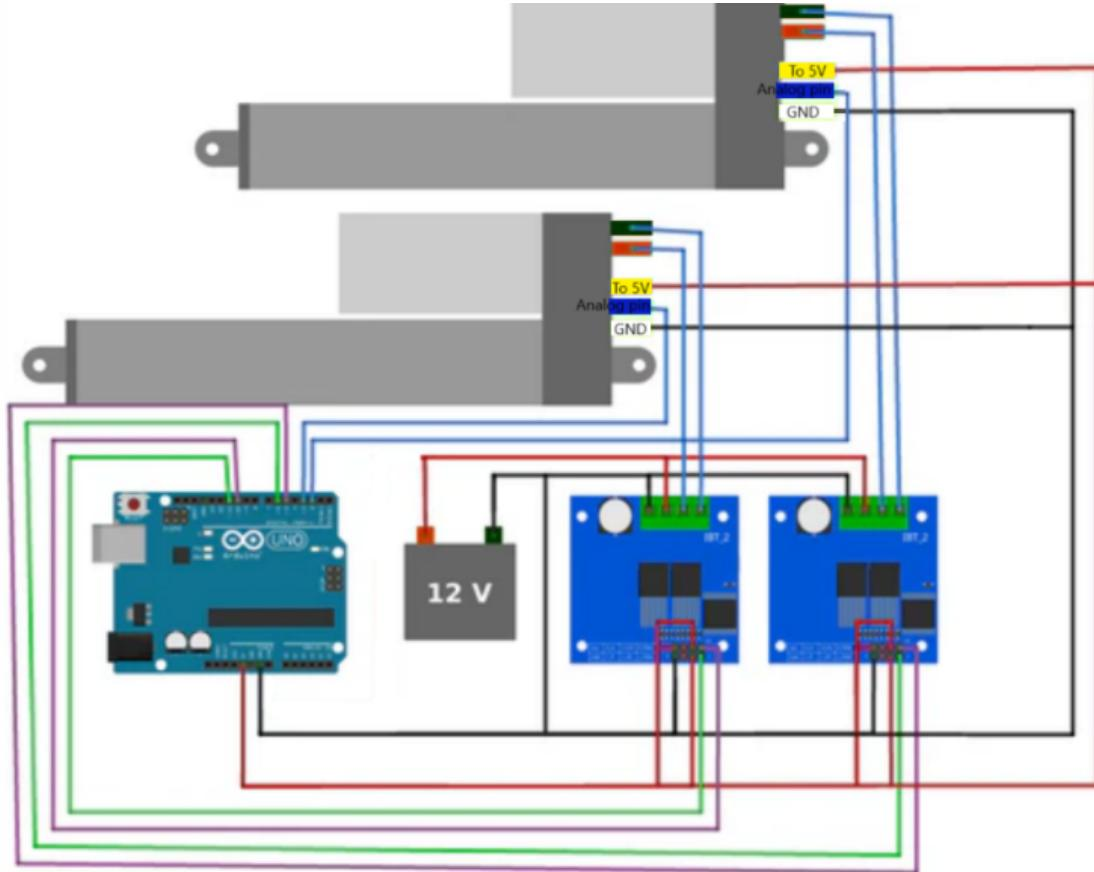

Figure 13: 2 Linear actuator wiring
- Refer to Figure 13. RPWM - 5, LPWM - 3; RPWM -11, LPWM - 10 (Must be connected to PWM pins).